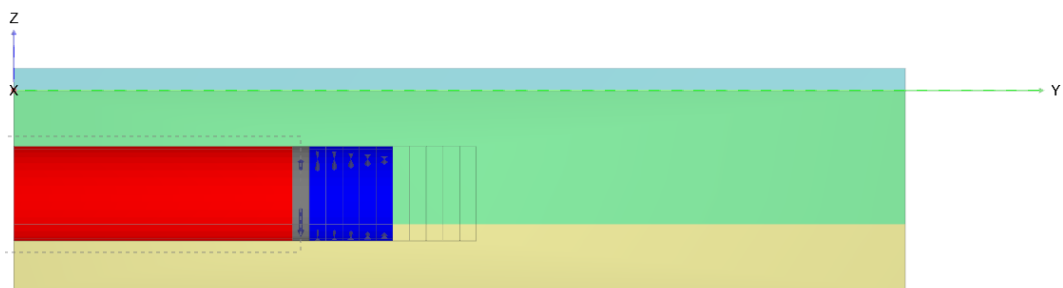

Figure 86: Selection of plate (0 m - 25 m)
4. Select the outer tunnel surfaces between 0 m and 25 m (inside the wireframe lines) as shown in Figure 86 (on page 110).